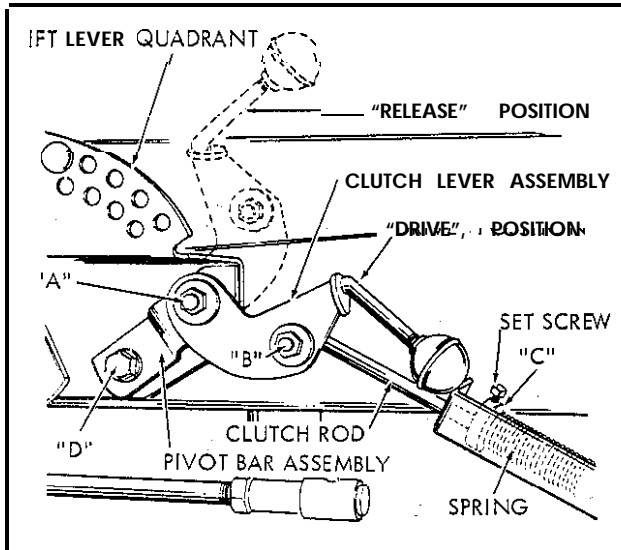

Fig. 4
4. Remove hex cap screw "D" from frame of tractor and mount bracket in place under lift lever quadrant. See figure 4. Position the pivot bar assembly flush against bottom of lift quadrant and re-install hex cap screw and tighten securely. Check alignment of drive pulley on bevel gear shaft, driven pulley of power take-off, and idler pulley, and adjust driving pulley if necessary.
Operation of the power take-off is controlled by movement of the clutch lever assembly. See figure 4. When the clutch lever is in the forward raised position, the clutch rod releases the tension holding the idler pulley against the drive belt, and power will not be transmitted to the driven pulley of the power take-off assembly. When the clutch lever is in the back, depressed position, the clutch rod applies tension to the idler pulley and as the idler pulley takes up the slack in the drive belt, power is transmitted from the drive pulley on bevel gear box shaft to the driven pulley of the power take-off. Figure 4 shows clutch lever in drive position.
At points "A" and "B" of figure 4, check tightness of hex nut to be sure that clutch lever assembly and clutch rod are free to pivot without binding.
Place clutch lever in "drive" position and observe clearance between collar "C" (figure 4) and end of bracket. This clearance should normally be approximately  $\frac{3}{4}$  inch; at this setting the idler pulley should be snugly against the drive belt. If additional tension is required, release clutch lever and loosen set screw on collar and slide collar farther back on clutch rod. Retighten set screw in collar and put clutch lever in drive position. Recheck clearance. The tension of the idler pulley against the drive belt must be sufficient to operate whichever tractor attachment is being used. Any additional tension is unnecessary and will only cause premature failure of belts and idler pulley bearings.